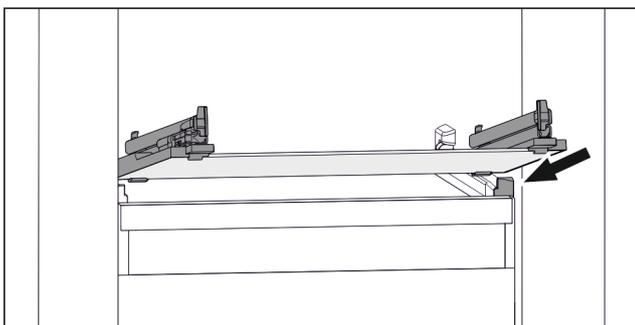

Fig. 64 Example illustration of glass shelf
- ▶ Position glass shelf at an angle behind the stoppers. (see Fig. 64)